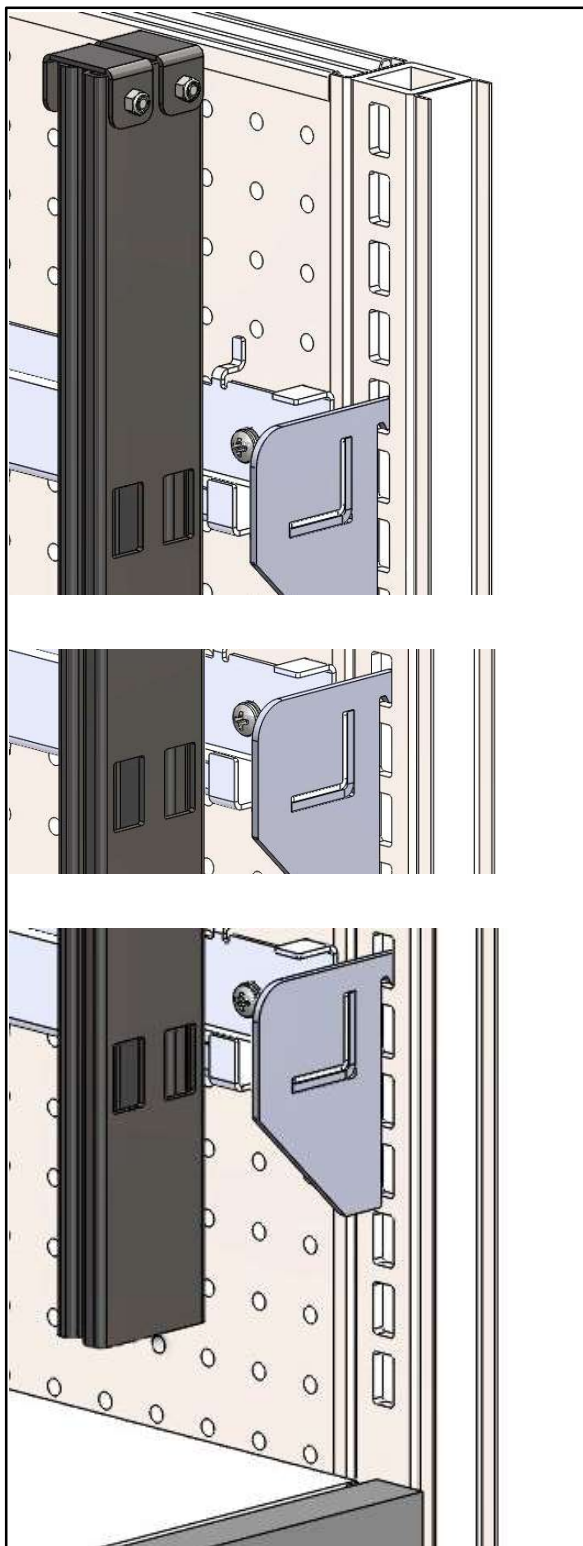

Figure 8
Install three Crossbars on the gondola. Using the mounting slots in the back of the Uprights as a spacing guide, locate one Crossbar near the top, one Crossbar near the middle, and one Crossbar near the bottom (See Figure 8).
*Note: The standard Crossbar hanging method is inserting the End Brackets into the gondola uprights (See Figure 8). Remove Crossbar End Brackets for two alternate hanging methods:*